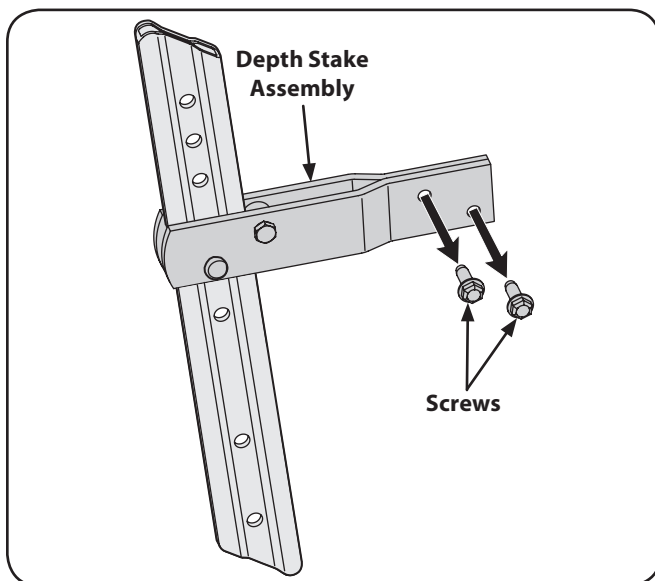

Figure 3-5
1. Remove the two screws from the depth stake assembly. See Figure 3-5.